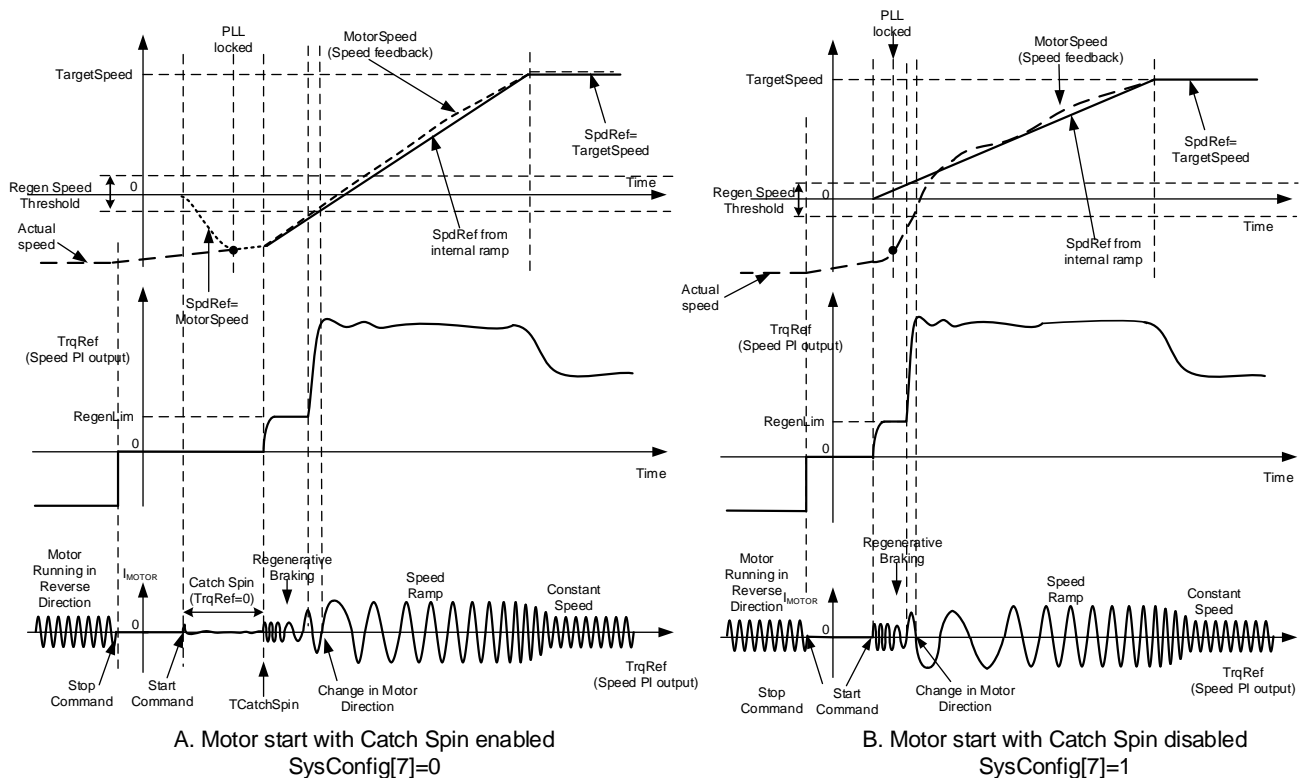

Figure 29 Reverse Catch Spin - Motor start with/without catch spin
If the motor is spinning in the opposite direction as desired, then the catch-spin sequence is termed as 'Reverse Catch-Spin'. Figure 29 (A) shows an example of 'Reverse Catch Spin'. In this example, at the start command, the motor is already spinning (in the opposite direction). During the catch spin sequence, no motoring current is injected. After the TCatchSpin time has elapsed, the motor is still spinning in opposite direction at a speed higher than Regen Speed Threshold (RegenSpdThr), thus an injected torque, limited by the value defined in RegenLim register, forces the motor to decelerate via regenerative braking. Once the speed of the reverse spinning motor falls below Regen Speed Threshold (RegenSpdThr), the injected torque is limited by MotorLim (RegenLim ≤ MotorLim). The injected torque forces the motor to come to a stop and start accelerating in the desired spin direction, following the speed ramp reference to reach the set target speed.